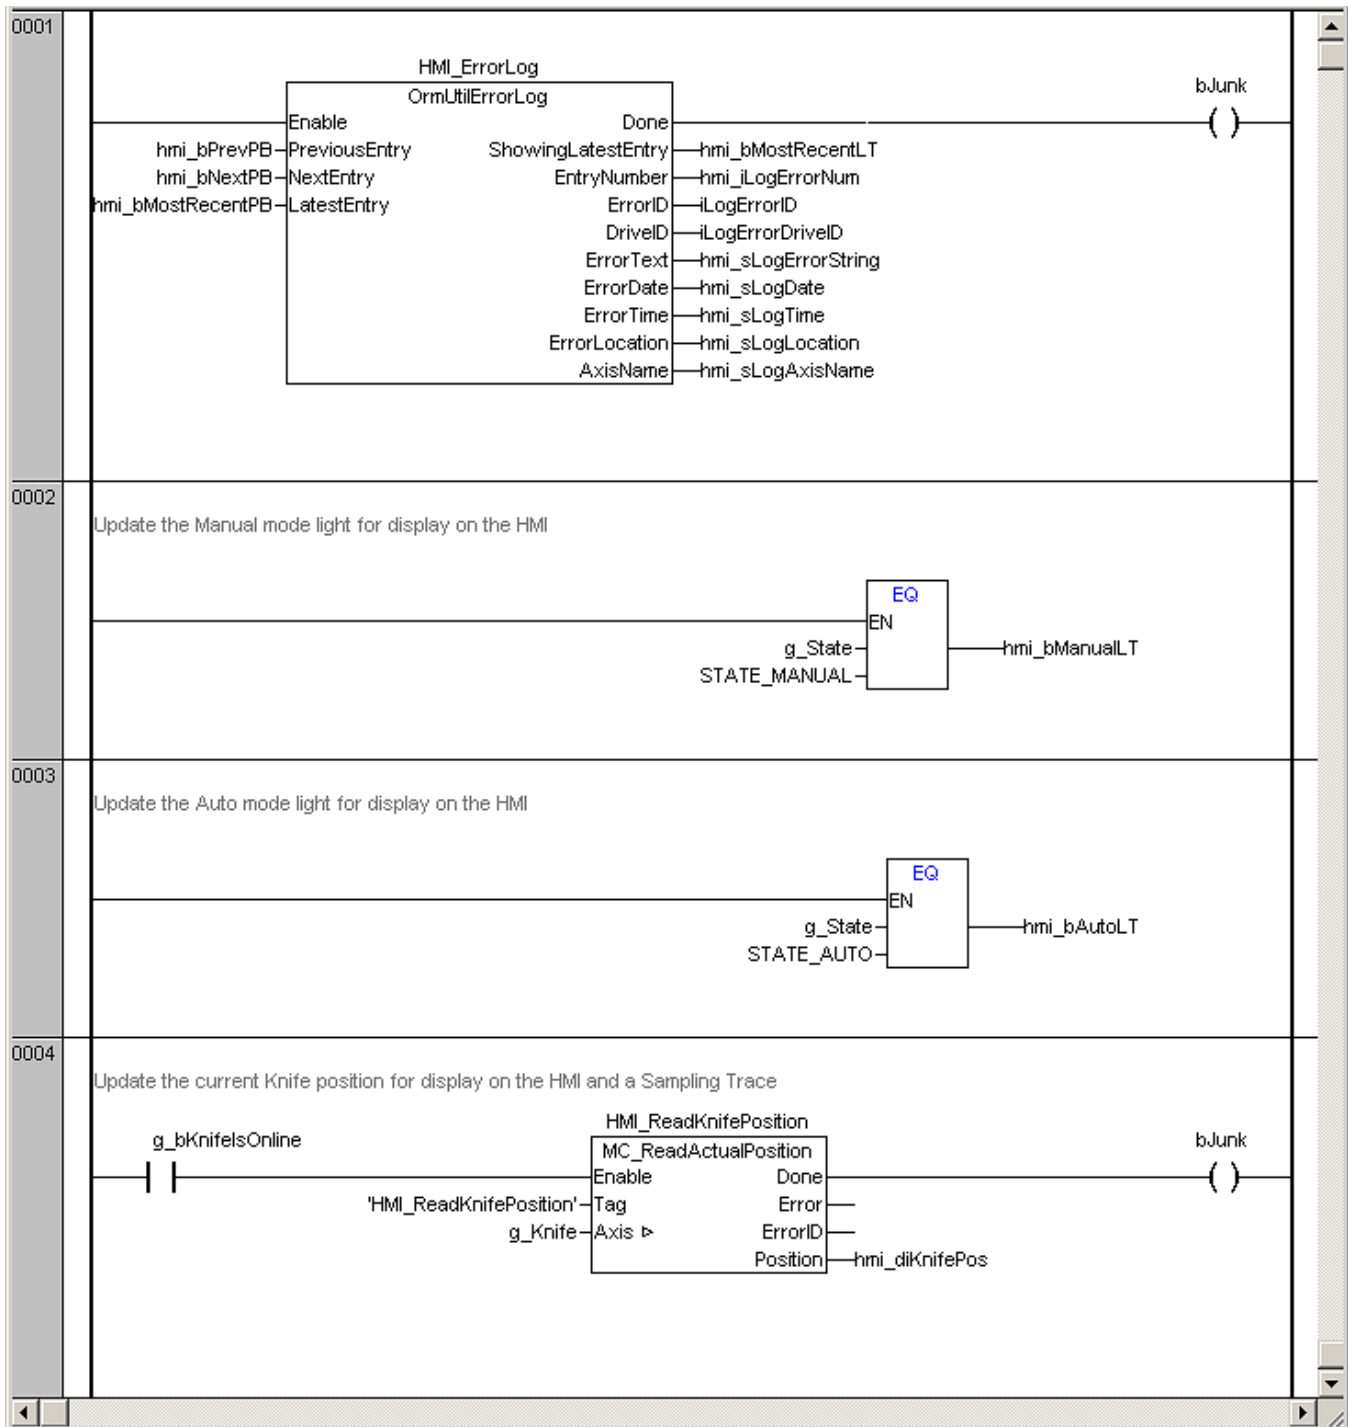

Figure 42, HMI Task
- Now enter the Ladder code shown in Figure 42.